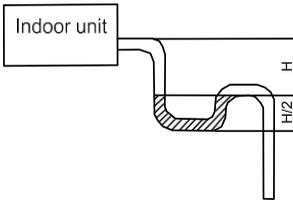

Fig.21
- (4) When the drain hose cannot keep a sufficient gradient, it is necessary to fit a riser pipe (field supplied) to it.
- (5) If the air flow of indoor unit is high, this might cause negative pressure and result in return suction of outdoor air. Therefore, U-type water trap shall be designed on the drainage side of each indoor unit.(Fig.21)
- (6) Install one water trap for each unit.
- (7) Installation of water trap shall consider easy cleaning in the future.